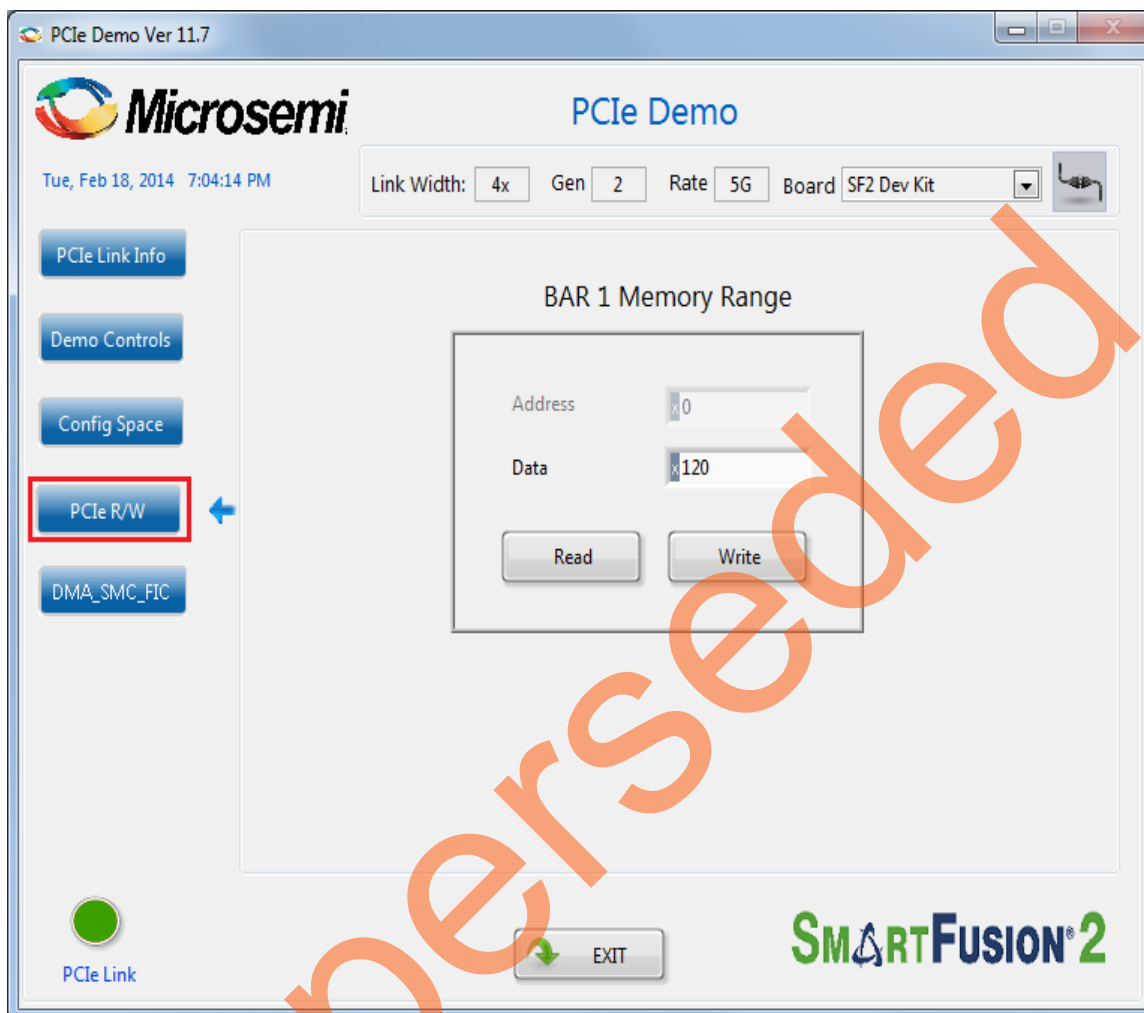

Figure 23 • Read and Writes to Scratchpad Register
14. Click **PCIe R/W** to execute read and writes to a 32-bit scratchpad register through BAR1 space. Figure 23 shows the PCIe R/W panel.